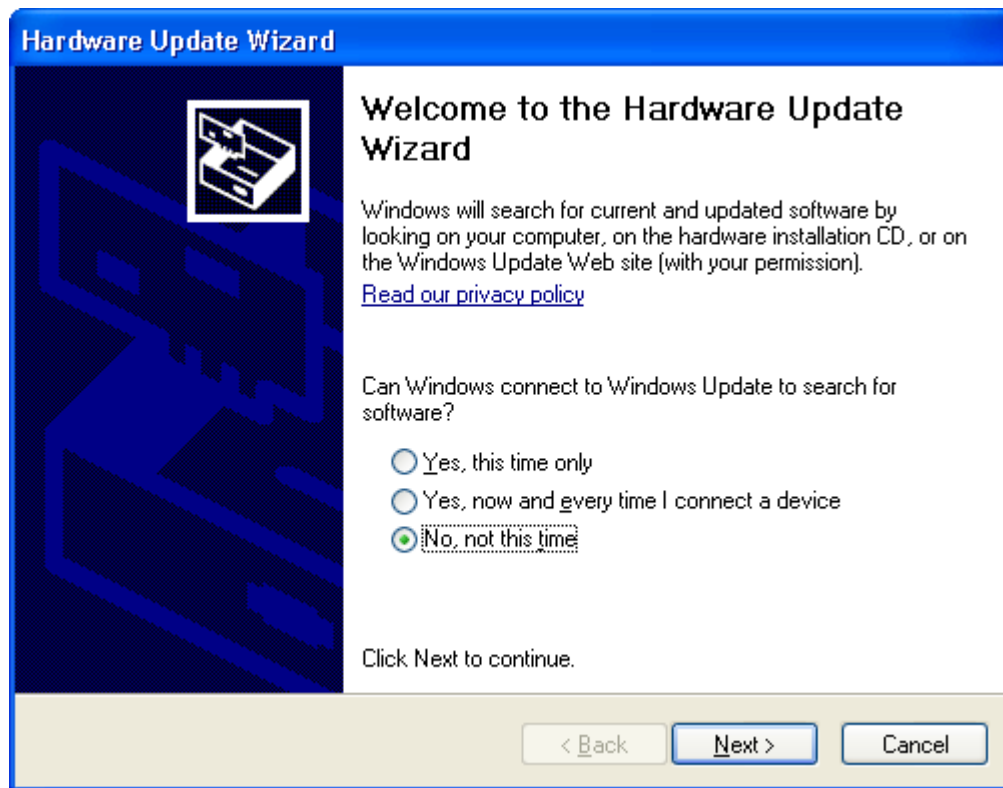

Fig 7: Hardware Update Wizard - Do Not Connect to Windows Update
3. This will start the Hardware Update Wizard. Select **No, not this time** and click **Next** (see Fig 7).